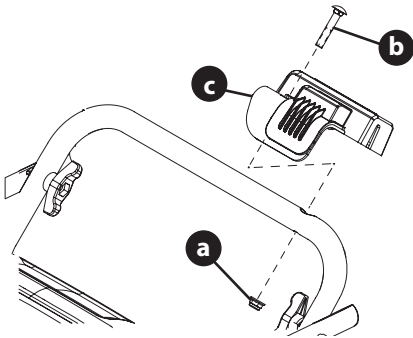

Figure 3
2. Remove nut (a) and bolt from (b) lower handle (Figure 3).